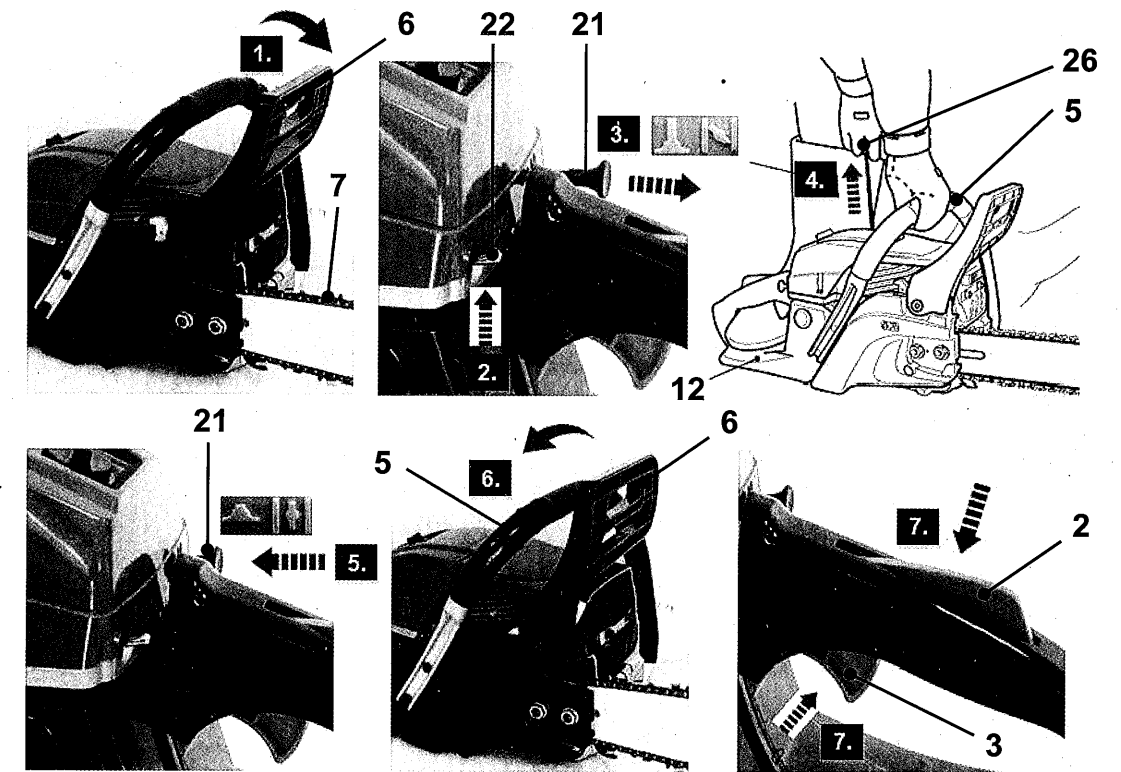

Fig. 22
1. Push front hand guard (6) forward (Fig. 22, step 1). The saw chain is now locked.
2. Set the ignition switch (22) to upper position (ON position) (Fig. 22, step 2).
3. Fully pull out the choke (21) to CLOSE position  (Fig. 22, step 3).
4. Hold the chain saw firmly on the ground with left hand on the front handle (5). Your thumb and fingers shall grasp the handle.
5. Place the right foot onto the rear hand safeguard (12) and step down.
6. Pull the recoil starter handle (26) lightly until you feel resistance then pull it rapidly (Fig. 22, step 4). Repeat until hearing a blasting sound (it usually needs 4 – 6 pulls).
7. Push the choke (21) fully back to OPEN position  (Fig. 22, step 5).
8. Pull the recoil starter handle (26) lightly until you feel resistance then repeat until engine starts.
9. Carefully pull the front hand guard (6) back toward the front handle (5) (Fig. 22, step 6).
11. Hold the product with the left hand on front handle (5) and the right hand on rear handle (1).
12. Press the throttle interlock (2) and then squeeze throttle trigger (3) (Fig. 22, step 7). The saw chain runs.